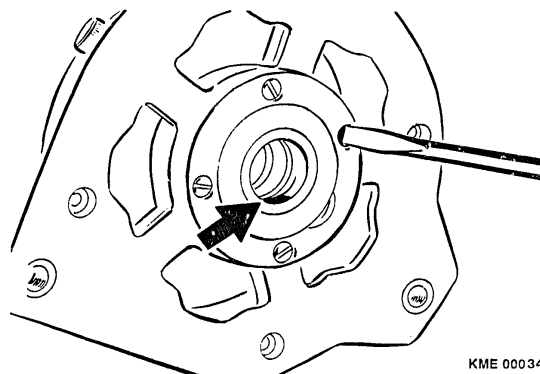

Figure 19 Drive End Bearing Removal
1. Loosen and remove the four (4) screws holding the bearing cover plate. (Figure 19)
2. Remove the spacer ring (Refer to arrow in Figure 19).